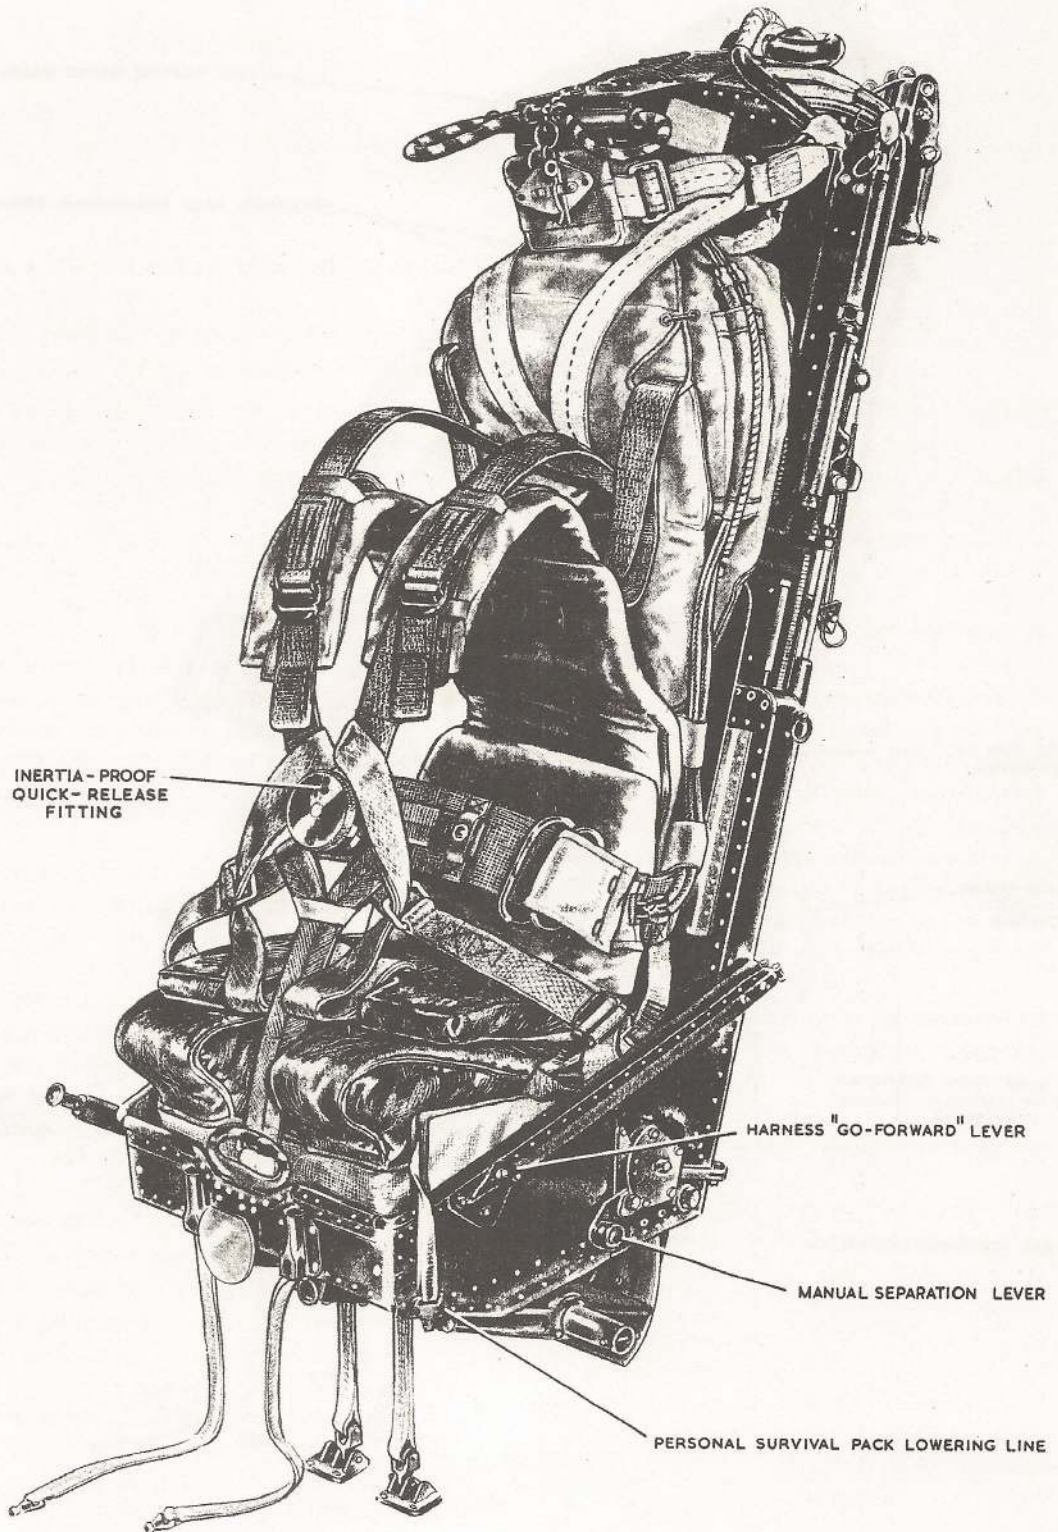

Fig. 1. The seat equipped (1)
14. The following procedure is to be used when equipping the seat; refer to fig. 1 to 4 for detail as necessary:-